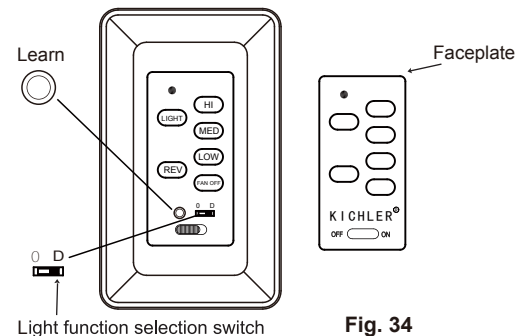

Fig. 34
ACTIVATING THE LEARNING PROCESS(Fig. 34)
1. Use a small flat screw driver and gently pry the faceplate apart from the top of wall transmitter: (Fig.34)
2. After installation is complete, AC power is turned on and OFF  ON SWITCH is at ON position within 30 seconds, press and hold the LEARN button for 3 seconds. Fan will turn on at medium speed and light (if installed) will turn on. This confirms that the SMART SYNC setting is active and ok. (Fig. 34)
LIGHT FUNCTION SELECT SWITCH(Fig.34)